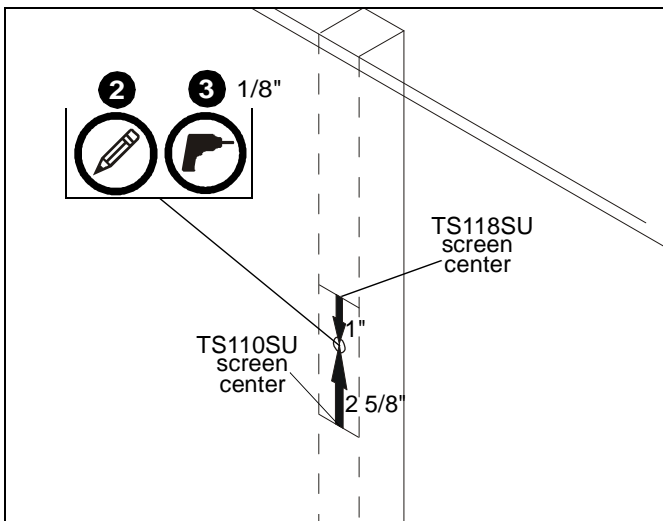

Figure 1
2. Measure 2 5/8" above desired center line if mounting TS110SU or 1" below desired center line if mounting TS118SU and mark a hole at this location. (See Figure 1)
**IMPORTANT ! :** Use a level to make sure main assembly (H) is level when mounted to the wall!
3. Drill one 1/8" hole at location marked in Step 2. (See Figure 1)